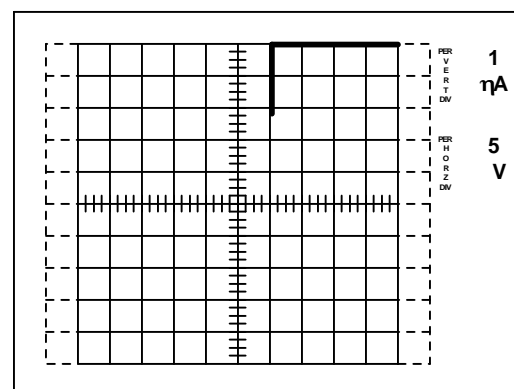

Figure 6. Gate-source leakage current at -20V
10. The above procedure is for determining gate leakage current with a positive gate voltage. To make the same measurement using a negative voltage, reduce the VARIABLE COLLECTOR SUPPLY voltage to zero, change the POLARITY switch to the PNP position, and reapply the voltage (see Figure 6). The trace will take time to settle because of the gate-source capacitance.